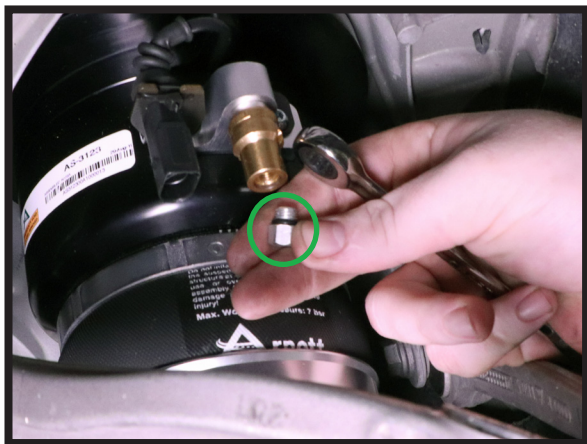

FIGURE 32
8. REMOVE PLUG FROM CHECK VALVE AND INSTALL PROVIDED VOSS FITTING SNUG TIGHT WITH A WRENCH THEN REMOVE SHIPPING PLUG FROM VOSS FITTING (FIGURES 32, 33, 34)